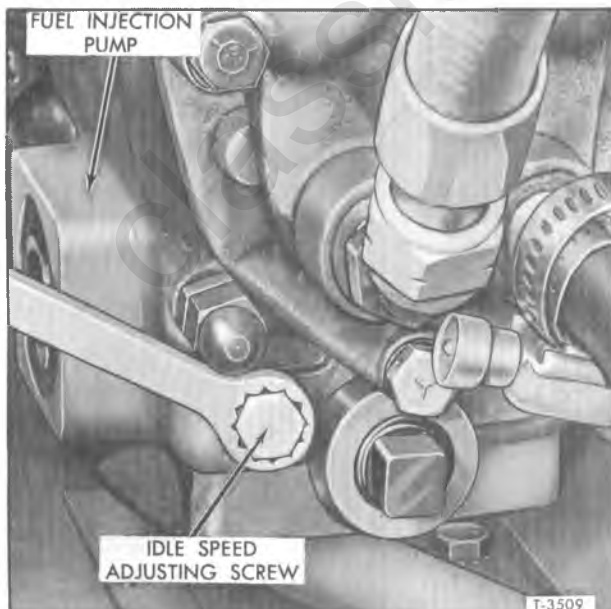

Figure 4—Adjusting Engine Idling Speed
3. Check engine idle speed which should be 625 rpm. The hex head, self-sealing, adjusting screw at rear of fuel injection pump is provided for setting slow idle speed. Adjustment is made by turning the screw in with wrench (fig. 4) to increase idle speed. Turn screw out (counterclockwise) to reduce idle speed.